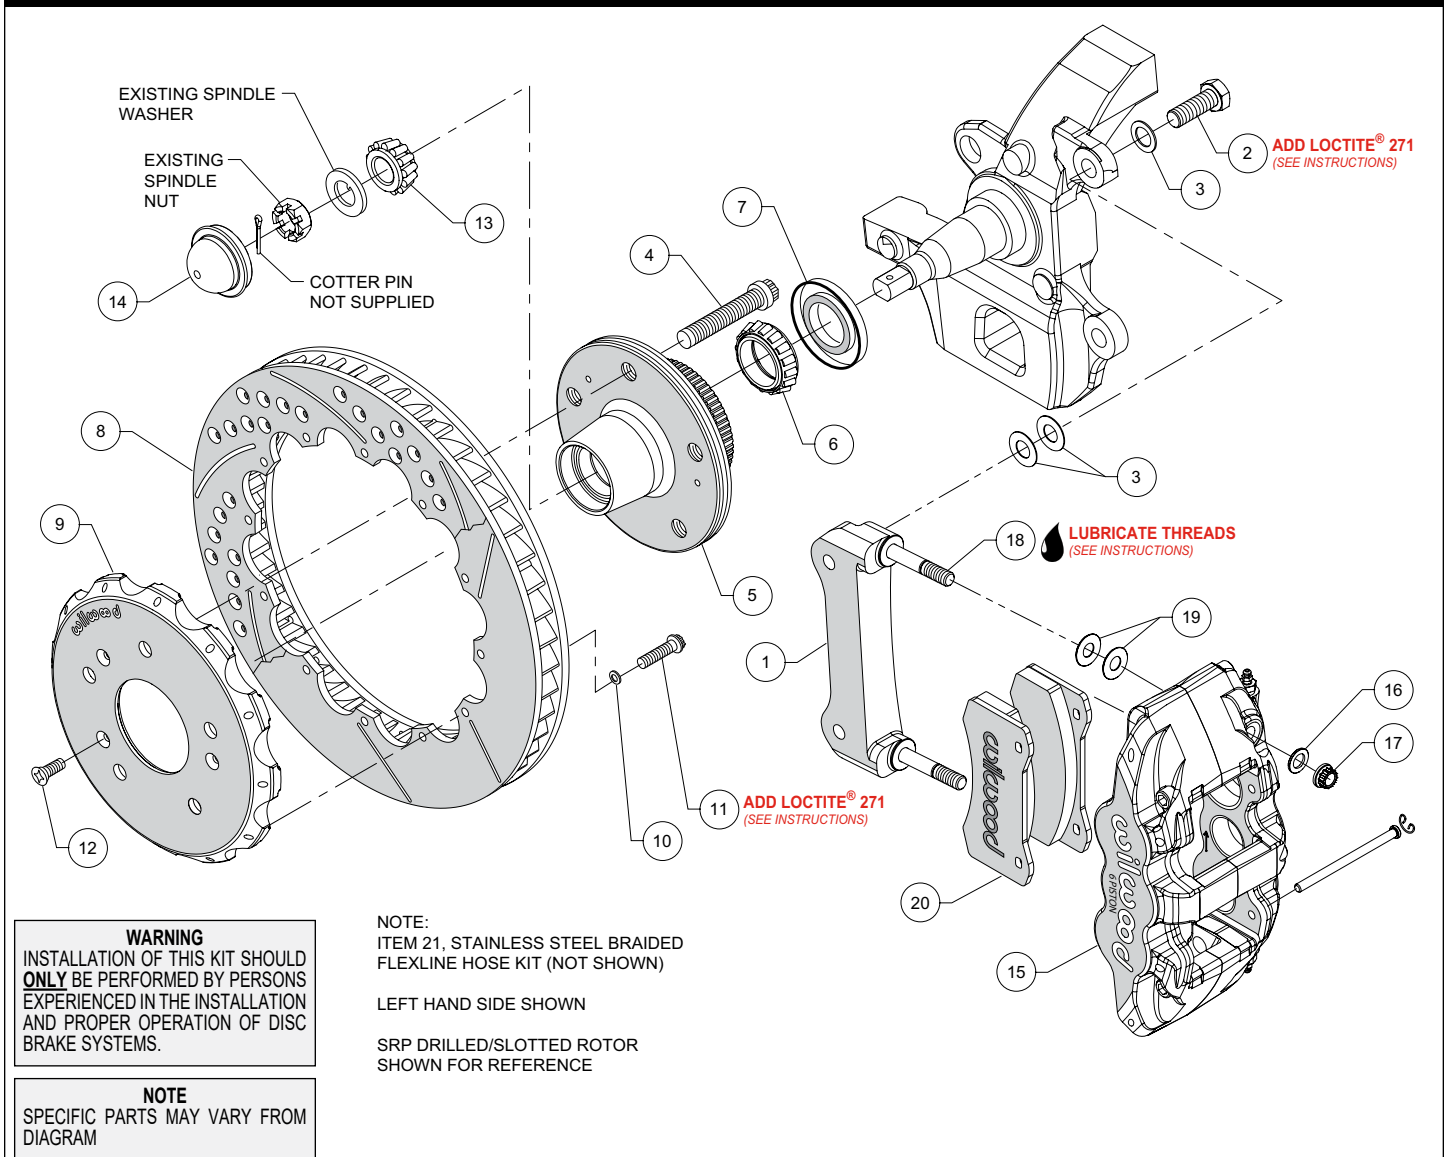
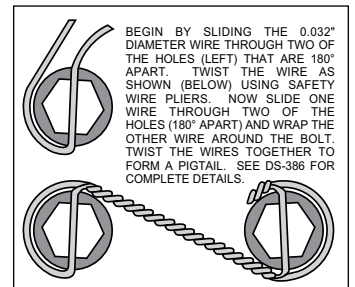

Figure 1. Typical Installation Configuration
Figure 3. Safety Wire Diagram
Assembly Instructions (numbers in parenthesis refer to the parts list on the preceding page, and Figure 1):
- The caliper mount bracket (1) should initially be installed with clean, dry threads on the mounting bolts. Orient the bracket as shown in Figure 1 and Photo 1, and install using bolts (2) and shims (3). Initially place two .029" thick shims (3) on each bolt between the bracket and spindle, Figure 1. Temporarily tighten the mounting bolts. **NOTE: The bracket must fit squarely against the mounting points on the spindle.** Inspect for interference from casting irregularities, machining ridges, burrs, etc. Later, after the caliper alignment has been checked, the mount bolts will be secured using red *Loctite*® 271.
- Orient the rotor (8) and the hat (9) as shown in Figure 1 and Photo 5. Attach rotor to hat using bolts (11) and washers (10). Apply red *Loctite*® 271 to the bolt threads and torque to 155 **in-lb** using a criss-cross pattern. For an added measure of security, the bolts may be safety wired using standard 0.032 inch diameter stainless steel safety wire as shown in Figure 3. Refer to Wilwood's data sheet DS-386 (available at www.wilwood.com/Pdf/DataSheets/ds386.pdf) for complete safety wire installation instructions.
- **NOTE:** This kit contains distinct right and left hand calipers that must be mounted in a specific direction, as described below. Lubricate the caliper mounting studs (18) with lightweight oil. Initially place two .030" thick shims (19) on each stud between the caliper and the bracket, as shown in Figure 1 and Photo 9. Mount the caliper (15) onto the bracket (1) using lock nuts (17) and washers (16), Figure 1. Ensure that the caliper is mounted so the largest pistons are at the rotor exit end of the caliper, in relation to the direction of rotor rotation. Temporarily tighten the lock nuts and view the rotor through the top opening of the caliper. The rotor should be centered in the caliper, Photo 10. If not, adjust by adding or subtracting shims (3) between the bracket and the spindle. Always use the same amount of shims on each of the two mounting bolts. Once the caliper alignment is correct, remove the bracket mounting bolts one at a time, apply red *Loctite*® 271 to the threads, and torque to 77 ft-lb.
- Remove the two pad retaining pins from the caliper (15) by carefully popping out the pin retaining clips and sliding out the pins. Insert the brake pads (20) into the caliper from the bottom, Figure 1 and Photo 11. With the friction material facing the rotor, secure the brake pads in place with the pad retaining pins and clips, Photo 12. Reinstall the caliper onto the caliper mounting bracket and temporarily tighten the lock nuts. Check that the top of the brake pad is flush with the outside diameter of the rotor, Photo 13. If not, adjust by adding or subtracting shims (19) between the caliper and the bracket. After the caliper pad height is set, torque the caliper lock nuts (11) to 47 ft-lb.